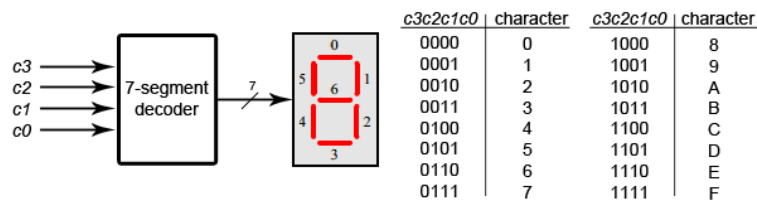

Figure 13: 7 segment display and decoder
The 7-segment display is comprised of 7 LEDs that are arranged in such a way that allows for the creation of the numbers 0-9 and a select few characters with some clever use. Figure 13 shows the block diagram and output table. Your task is to create a 4 input, 7 output decoder that will display a number from 0-9 and the letters A-F. To accomplish this task, you should program the switches SW(3) - SW(0) to act as a 4-bit input to the decoder and output the result across all of the displays, HEX7 - HEX0.